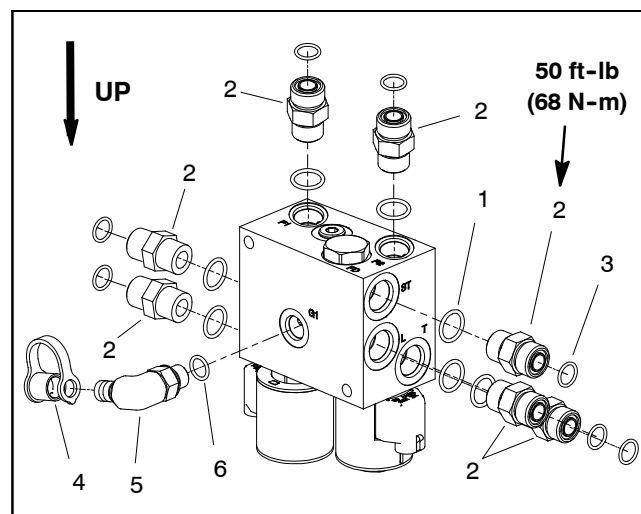

Figure 108
8. If hydraulic fittings are to be removed from fan control manifold, mark fitting orientation to allow correct assembly (Fig. 108). Remove fittings from manifold and discard O-rings.
1. If fittings were removed from fan control manifold, lubricate and place new O-rings onto fittings. Install fittings into manifold ports using marks made during the removal process to properly orientate fittings. Tighten fittings (see Hydraulic Fitting Installation in the General Information section of this chapter). Refer to Figure 108 for fitting installation torque.